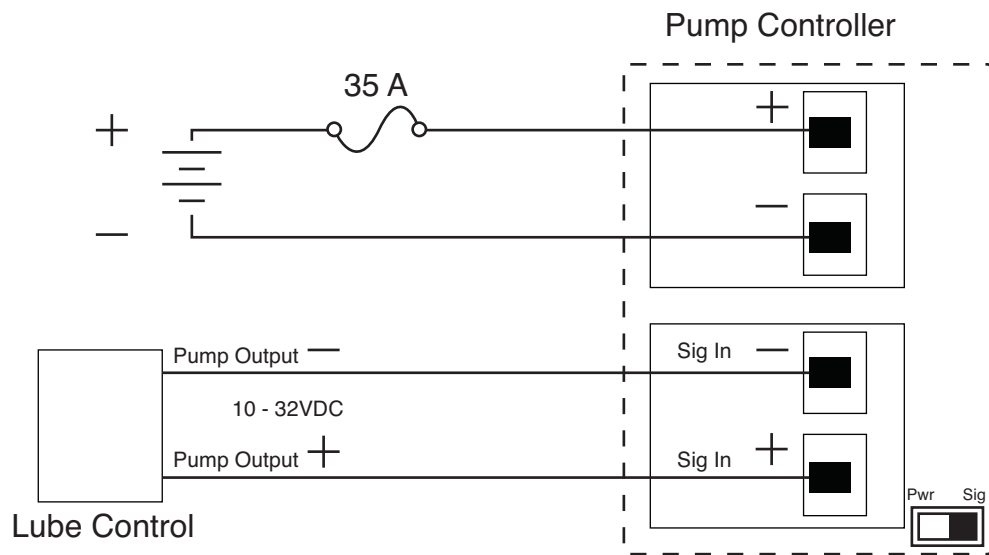
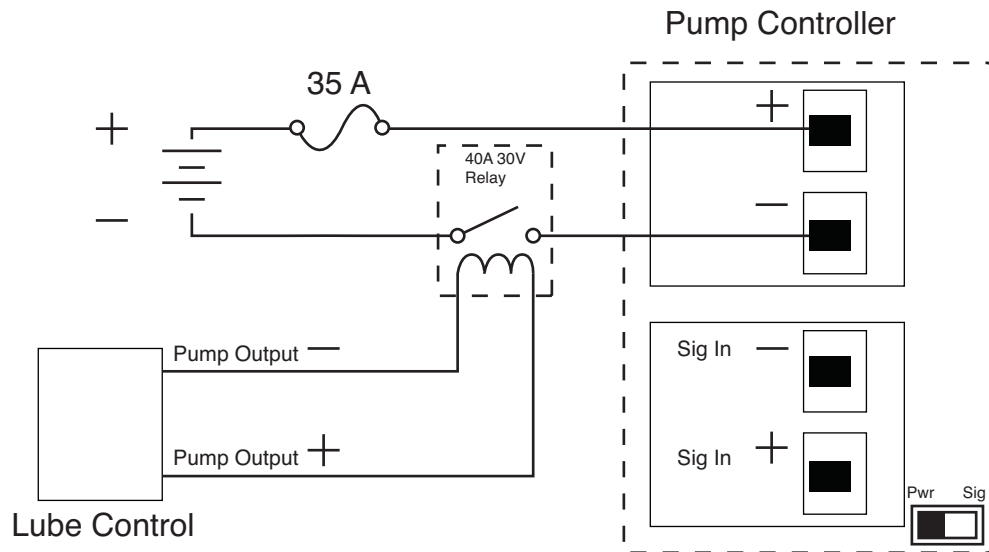

FIG. 13: Pump control switch shown in signal mode
FIG. 14: Pump controls switch shown in power mode
3. Make all source to input power connections (A and B, page 12) and pump control connections (C and D, page 12). Refer to FIG. 13 or FIG. 14, page 11 for wiring diagrams and Control Board diagram, page 12.